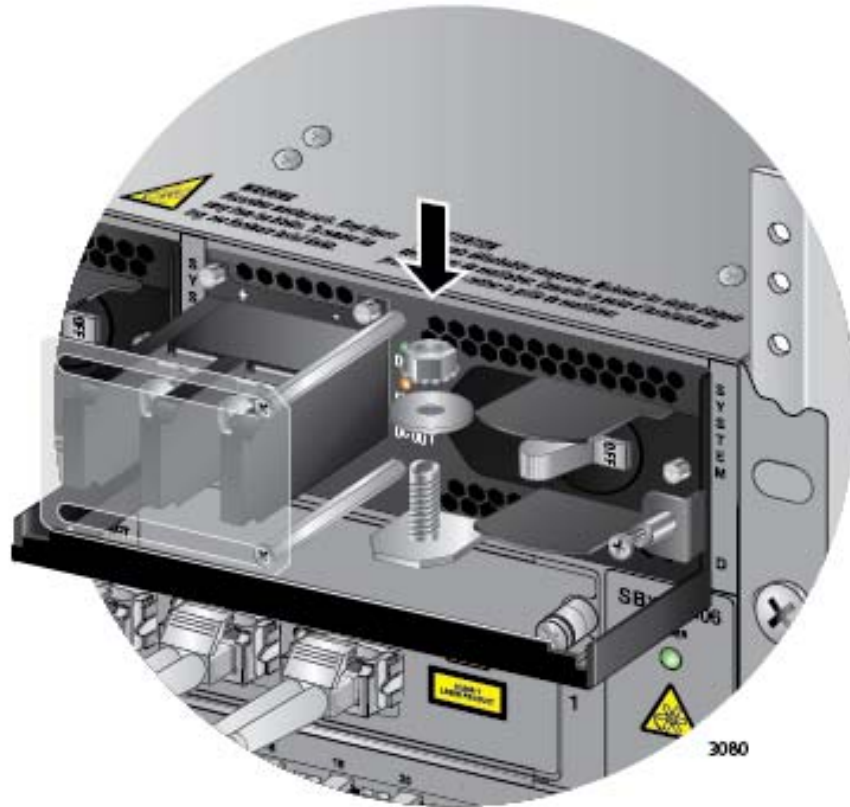

Figure 178. Reinstalling the Nut and Washer on the Grounding Post
10. Reinstall the nut and washer on the grounding post. Refer to Figure 178 on page 294.